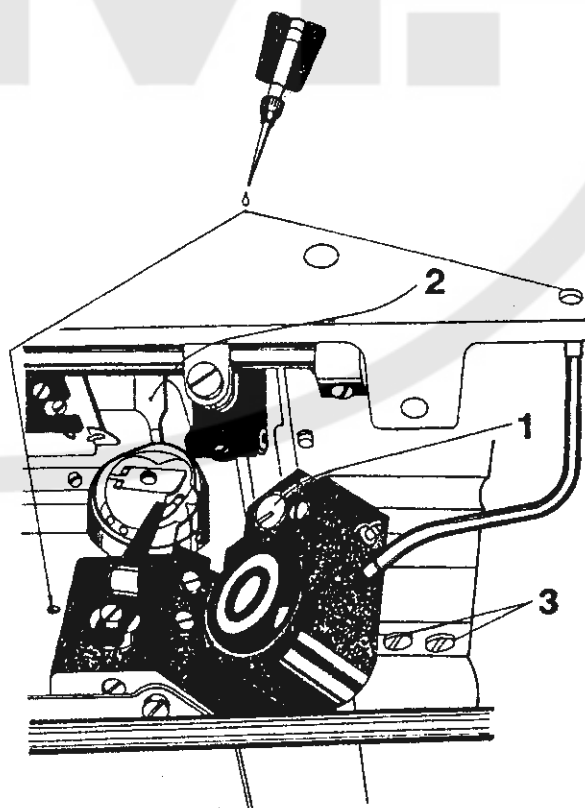

Figure 2
6. To adjust the hook lubrication (Fig. 2)
10. To adjust the hook holder (Fig. 2)